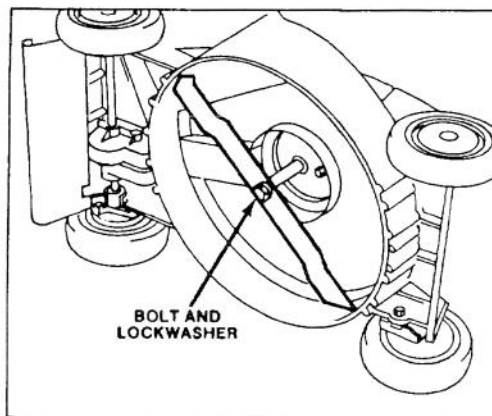

Figure 20
3. Tip mower on its left side (Fig. 20). Avoid rotating blade. Starting problems may result.
5. REMOVING BLADE — Grasp end of blade using a rag or thickly padded glove. Remove blade bolt, lockwasher and blade (Fig. 20).